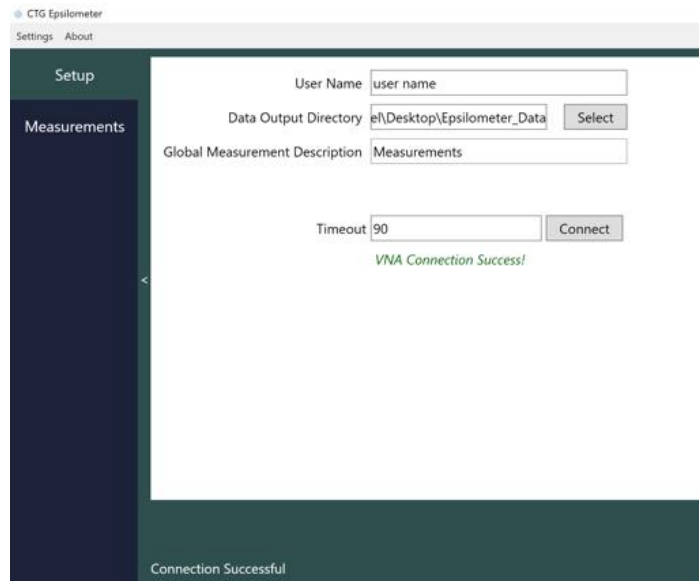

Figure 5. VNA Connection Success.
8. RVNA will open and CTG Epsilon initial “Setup” screen will display the message “VNA Connection Success!” (Figure 5)